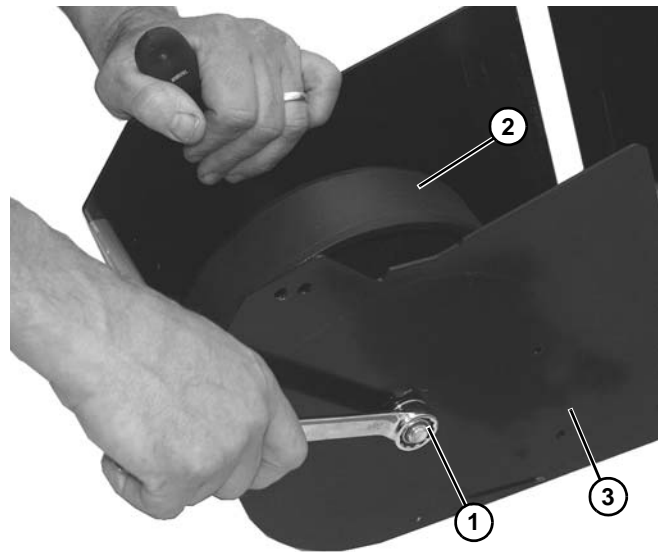

Figure 148
3. Use two wrenches to remove nut (Figure 148, item 1) on bolt securing wheel (Figure 148, item 2) onto weighted take up assembly housing (Figure 148, item 3).